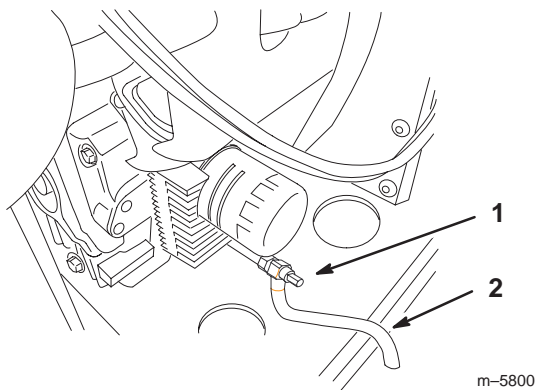

Figure 40
5. Place the hose onto oil drain valve to direct oil into drain pan (Fig. 40).
6. Place a pan below the drain hose. Rotate the oil drain valve to allow the oil to drain (Fig. 40).
8. Remove the drain hose. Place the hose in a notable place for future use (Fig. 40).